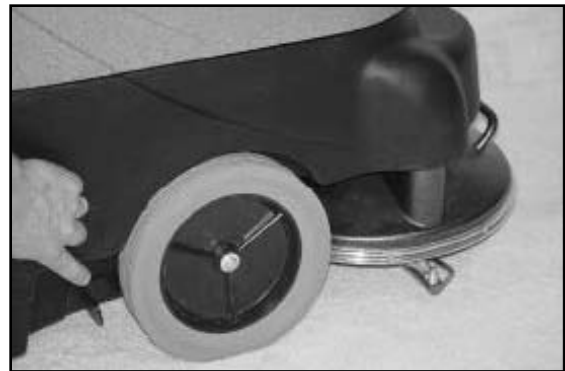

Figure 6. Depress Lever Behind Right Wheel
6. Depress the lever behind the large right wheel (Figure 6) and lower the cleaning head.